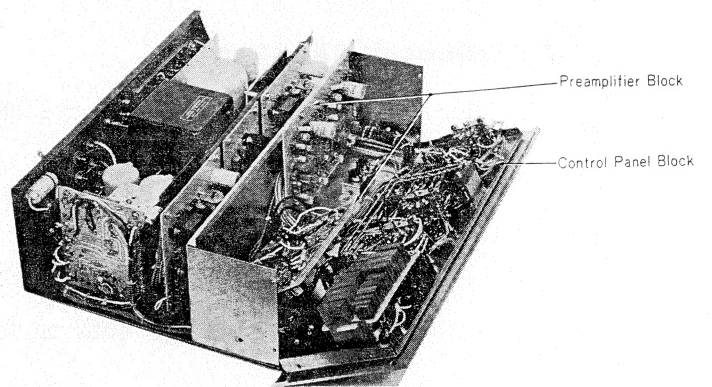

Fig. 5
- (b) The service will be easily done after removing control panel and preamplifier block respectively. (Fig. 5)